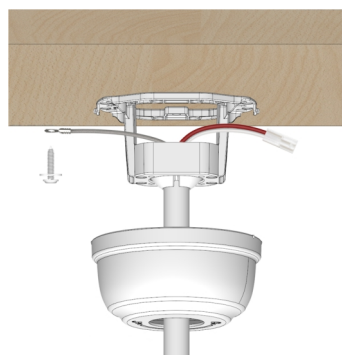

Fig. 5.2
5.2 Attach the other end of the safety cable to a secure location. Fasten the safety cable to the ceiling using a screw and washer (not included), as depicted in Fig.5.2.